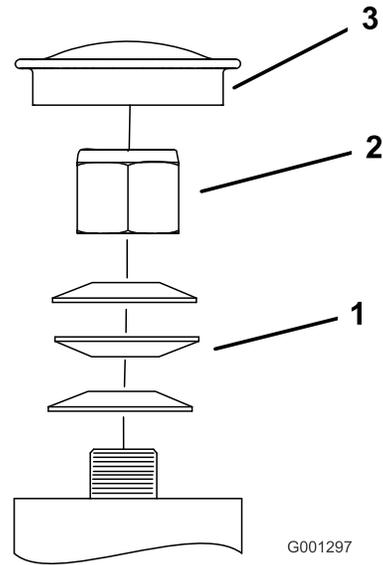

Figure 79
3. Remove the dust cap from caster and tighten the locknut (**Figure 79**).
4. Tighten the locknut until the spring washers are flat, and then back off a 1/4 turn to properly set the preload on the bearings (**Figure 79**).
Important: Make sure that the spring washers are installed correctly as shown in **Figure 79**.
5. Install the dust cap (**Figure 79**).